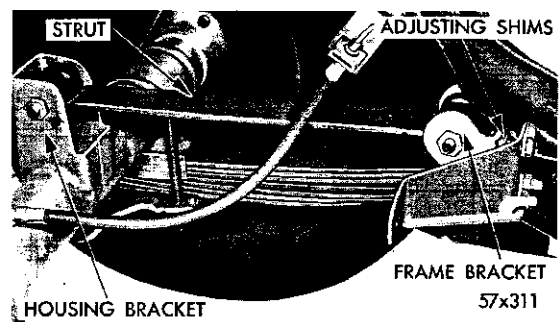

Fig. 8—Rear Axle Control Strut (Typical)
(1) Place the vehicle on a level platform with the weight of the vehicle on the wheels.
(2) Remove the differential carrier rebound bumper plate.
(3) Remove the shims from both rear axle control strut frame brackets (Fig. 8).